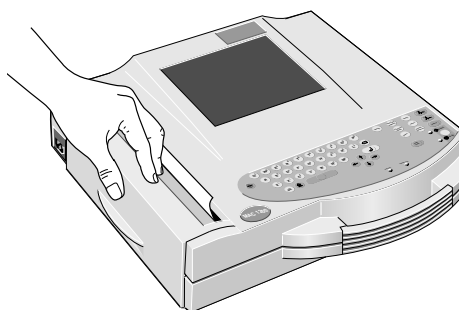

Figure 10-4. Closing the paper compartment door
- Holding the leading edge of the paper in place between the two markers on the recorder, close the paper door (Figure 10-4). Ensure that it locks into place on both sides.